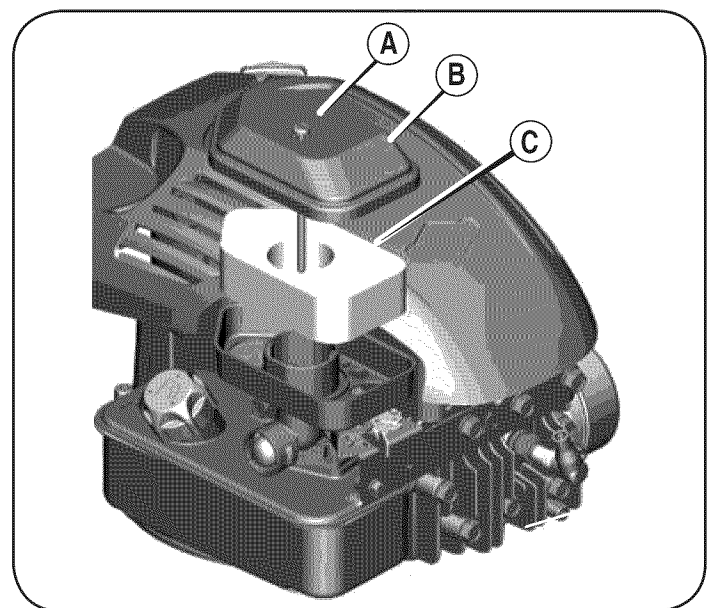

Figure 14
1. Remove the screw (A) from the top of the air filter cover (B). See Figure 14.
3. Remove the foam element (C) from the air filter base.